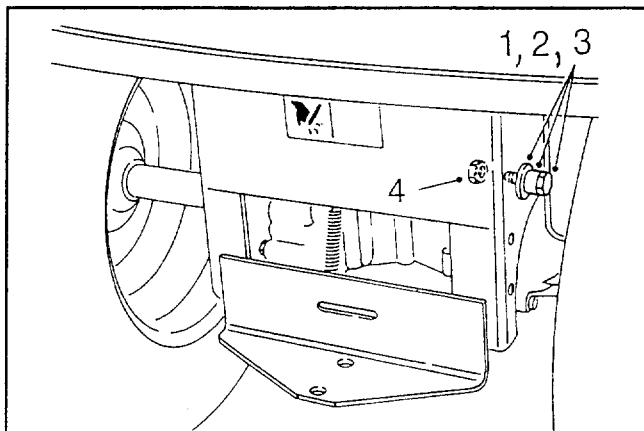

Figure 7
1. Slide spacer and 1/4" thick washer onto a 3/8" x 1-3/4" bolt (Fig. 7). Slide bolt assembly through top hole in side of hitch plate and secure in place with 3/8" nylon lock nut. Install remaining spacer, washer, bolt and nylon lock nut on opposite side of hitch plate.